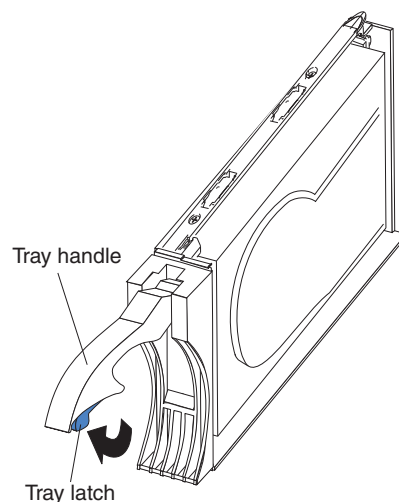

Figure 34. E-DDM FRU handle
- b. Pull the handle on the tray out so that it is in the open position, as shown in Figure 34.
- a. Release the latch on the E-DDM FRU by pressing on the inside of the bottom of the tray handle, as shown by the arrow in Figure 34 on page 71.